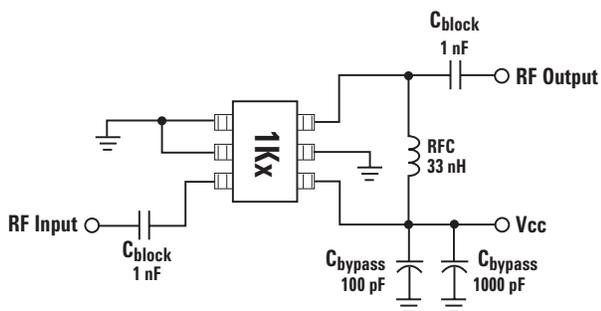

Figure 1. ABA-31563 Production Test Circuit.
1. Measurements taken on 50 $\Omega$  test board shown on Figure 1. Excess circuit losses had been de-embedded from actual measurements. Standard deviation and typical data based on at least 500 parts sample size from 2 wafer lots. Future wafers allocated to this product may have nominal values anywhere within the upper and lower spec limits.